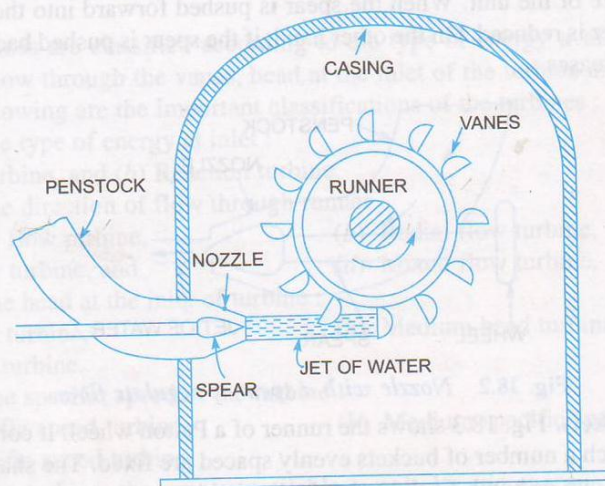

Fig. 18.4 Pelton turbine.
**3. Casing.** Fig. 18.4 shows a Pelton turbine with a casing. The function of the casing is to prevent the splashing of the water and to discharge water to tail race. It also acts as safeguard against accidents. It is made of cast iron or fabricated steel plates. The casing of the Pelton wheel does not perform any hydraulic function.